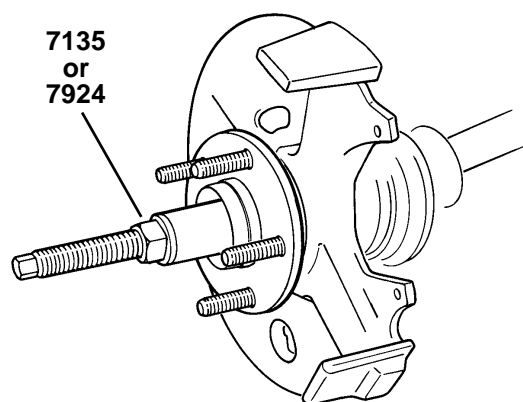

Figure 8
7. Assemble the tool components (No. 7135 or No. 7924) as shown in Figure 8, and install the vehicle axle.